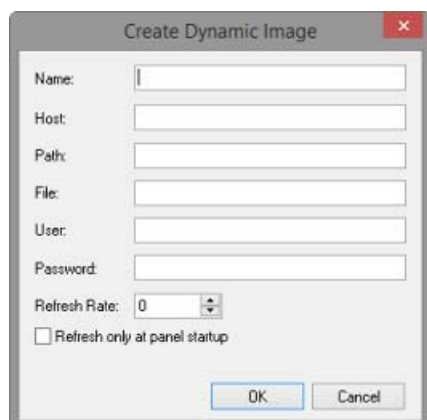

FIG. 30 Create Dynamic Image dialog
3. In the *Dynamic Images* tab of the Resource Manager, click **New** to open the *Create Dynamic Image* dialog (FIG. 30):